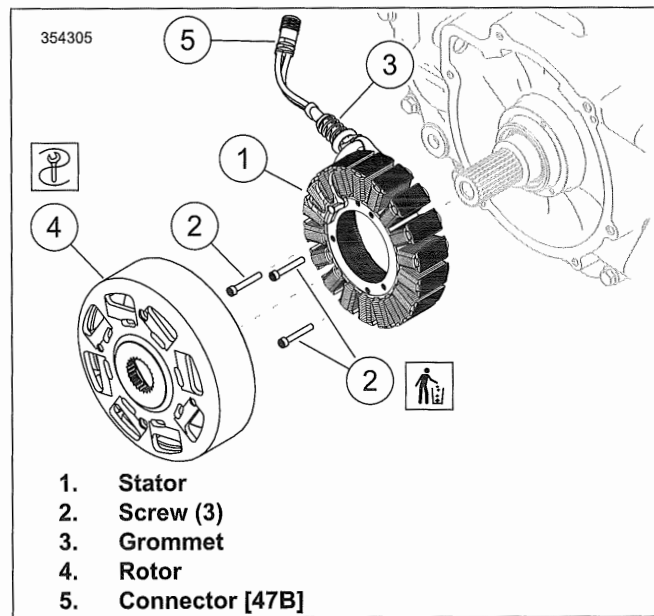

Figure 7-6. Rotor and Stator
1. See Figure 7-6. Disconnect connector (5) from voltage regulator.